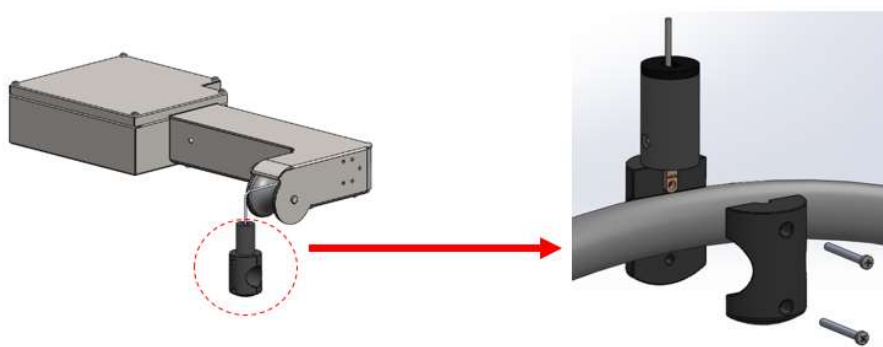

Figure 24 Fix the charging cable
(18) Fix the charging cable on the CMS through the cable clamp, as shown in Figure 24. The fixed point of charging cable is 2.5m from the outlet gland.